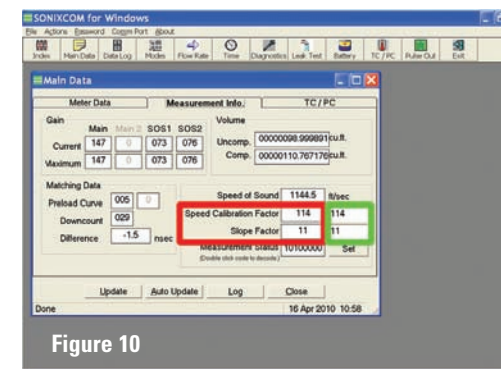

Figure 10
- The Speed Calibration Factor and Slope Factors are displayed. These settings can only be changed using **SONIXCOM 3.04 Shop Version** (or newer). Enter changes in the input boxes, located to the right of the current settings. (Figure 10)